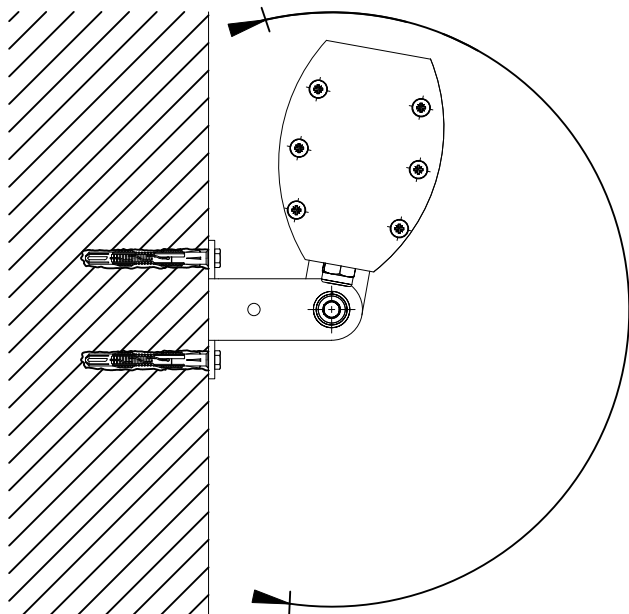

Fig. 3
- Adjust required angle of the luminaire. (Fig. 3)
- Stabilize the angle by tightening the screws. (Fig. 3)